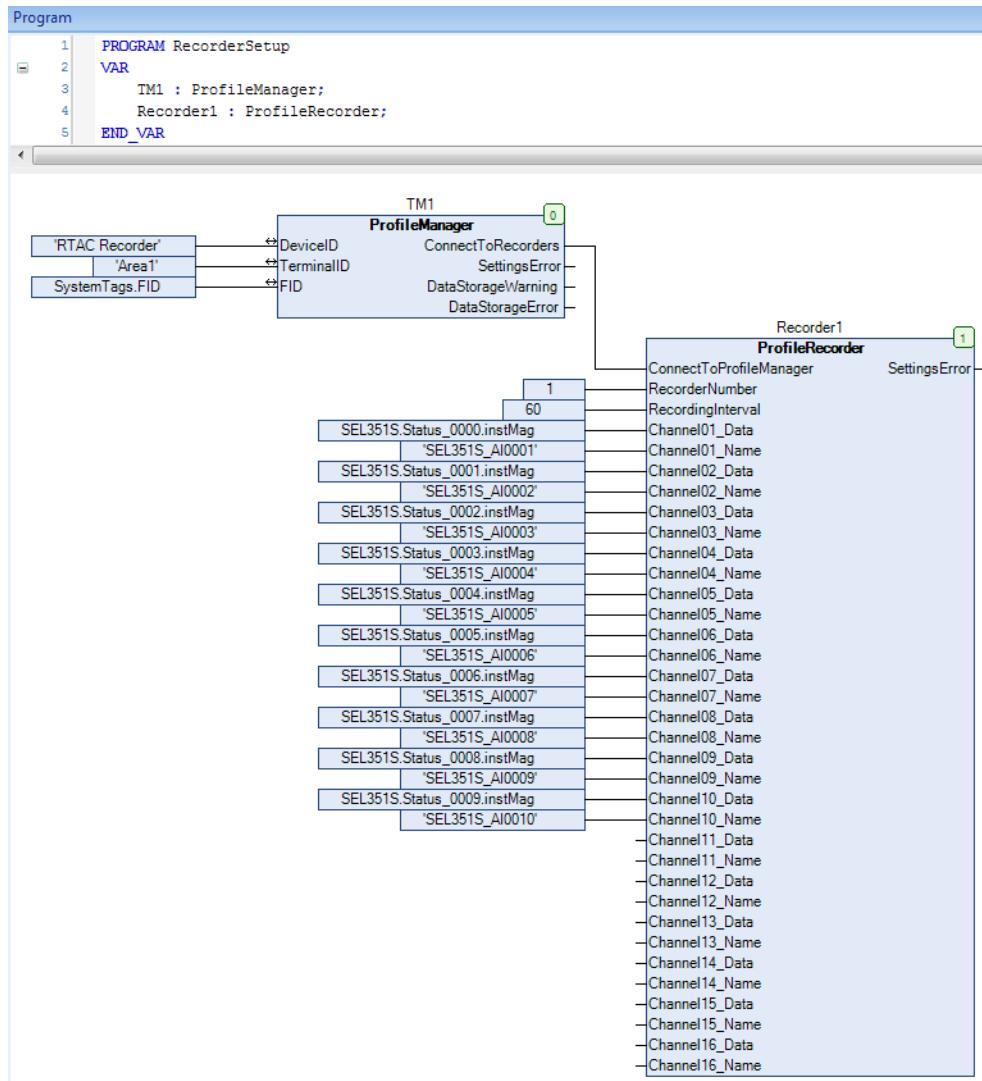

Figure 198 Configured Recorder Program
- Step 12. Fill in the remaining element pins with the appropriate context information or tag data. The final program setup should be similar to that of *Figure 198*.